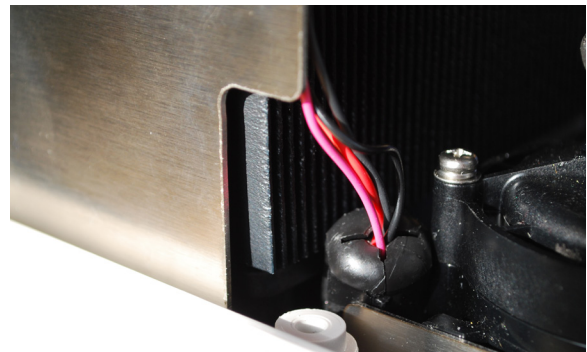

Figure 73 - Step 5 Install EMI suppressor
5. Install the EMI suppressor around the fan and pump wires (Figure 73).